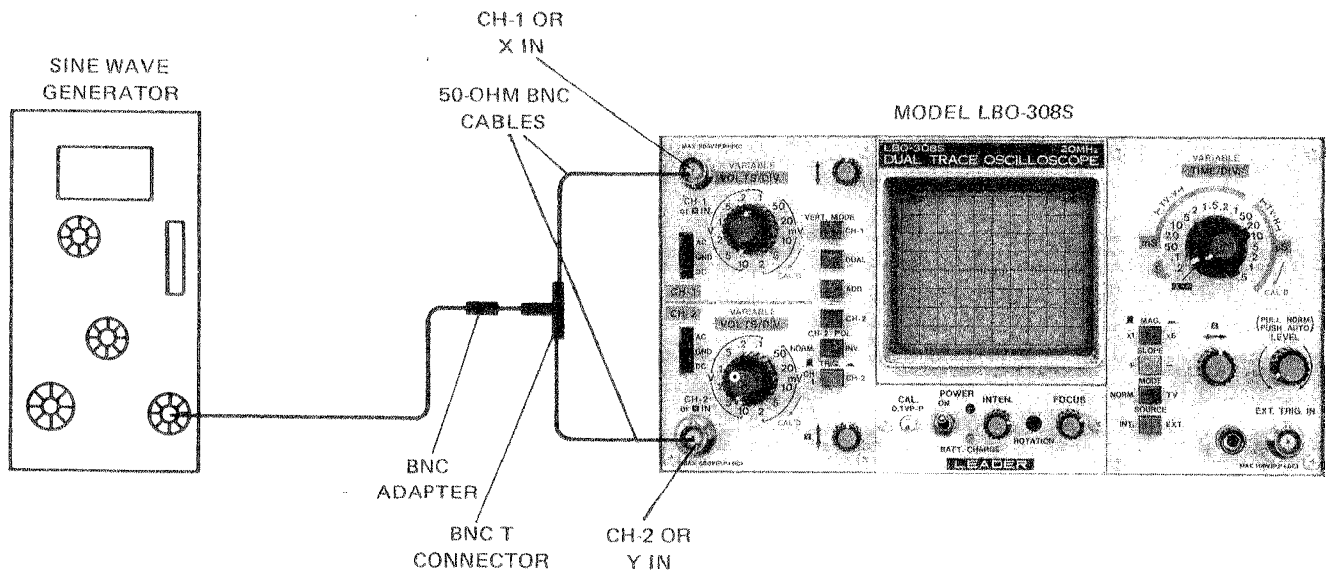

Figure 3-7. Phase Measurement Test Setup
- a. Connect test equipment as shown in Figure 3-7.